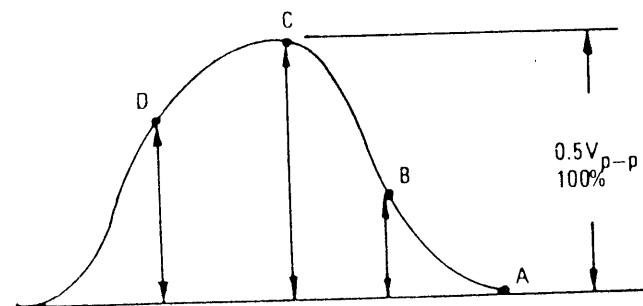

Fig. 9
3. Adjust T401 to obtain the waveform as in Fig. 9.